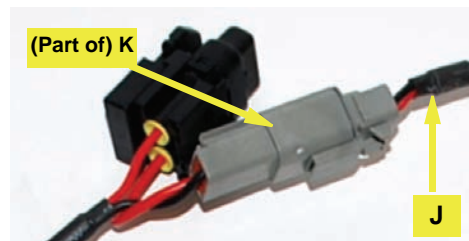

Figure 6c: Power cable to junction box cable
d. Connect the gray connector of the power cable **J** (routed into the cab at step 6a) to the gray cable from the junction box **K** (Figure 6c).